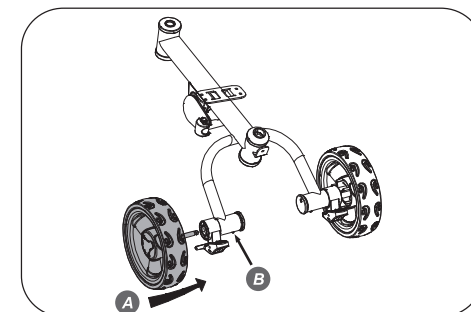

Fig. 1
1. Insert the Rear Wheel Rod into the Frame Opening with wheel on outer side until you hear a "click" **A**. To remove the Rear Wheel depress the Rear Wheel Release **B** and pull out (See Fig. 1).